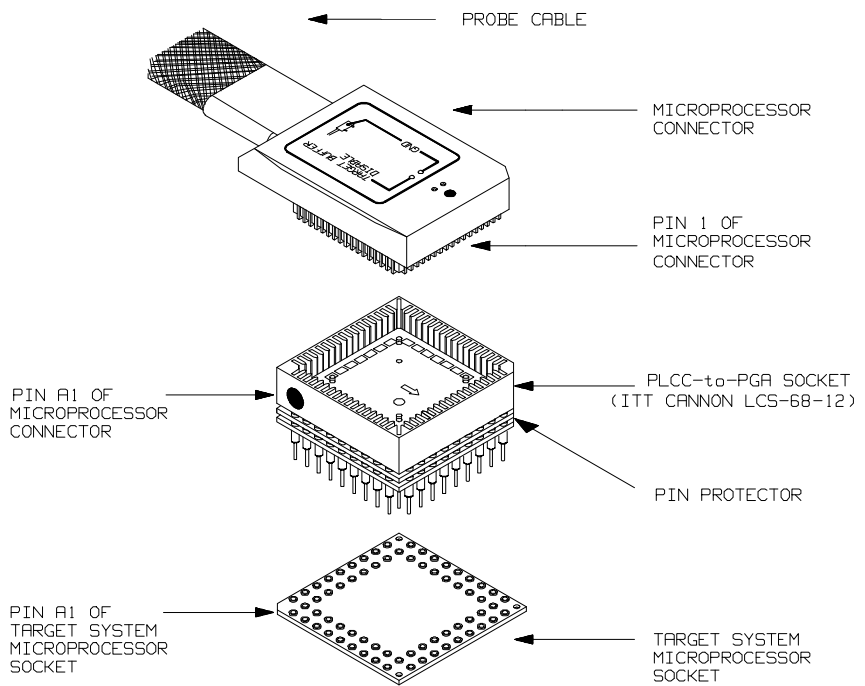

Figure 3-3. Installing into a PGA type socket
- Place the microprocessor connector with a PLCC-to-PGA socket and a pin protector (see figure 3-3), attached to the end of the probe cable, into the target system microprocessor socket.